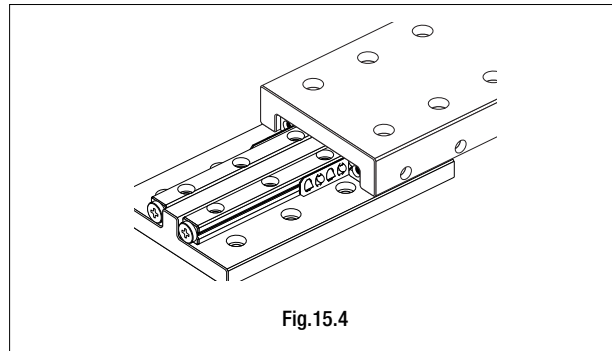

Fig.15.4
- Slide the table on the base. Do not apply any offset load to the rack gear and the pinion gear and do not deform the cage. Check and make sure the rack gear is over the end of the way. If the rack gear is over the end of the way, gently push the rack gear into the way while moving the table at a little stroke. (See Fig.15.4)